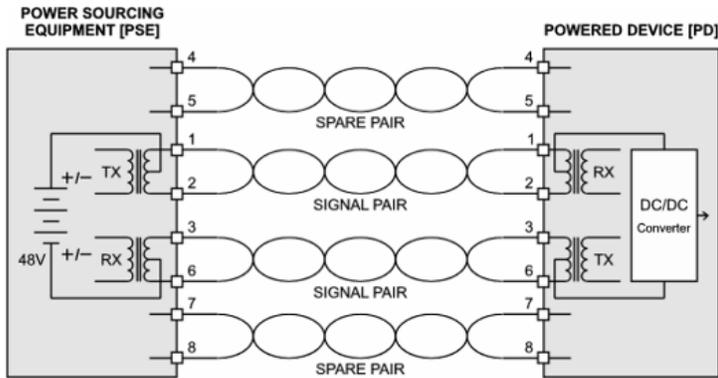

Figure 1 — Alternative A. Signal pairs carry both data and power. Polarity is indeterminate.
The 802.3af standard identifies two types of devices. The Power Sourcing Equipment (PSE) provides the required power just like its name implies. The Powered Device (PD) receives the power. The two are connected via the Ethernet communications cable. Given Ethernet's star topology, the PSE would naturally be assumed to be a port on a hub or switch while the PD would be an end station or node on the network. There are two ways of connecting power as illustrated in Figures 1 and 2. The first method, Alternative A, uses the data lines while the second method, Alternative B, uses the spare pairs. Using both approaches simultaneously is currently not allowed. The standard is being reviewed to determine if, by using both approaches, more power could be transferred to the PD. When using the spare pairs, the wires within the pair are connected together to increase the current carrying capacity. The same capacity can be obtained with the data lines if the power is fed through a center-tapped transformer. If the DC-current flow in each wire of the pair is equal, there will be no DC bias established in the winding of the transformer so this method could be very effective for carrying power and data simultaneously. In fact, this
The power being supplied by the PSE is a nominal 48 volts (44 to 57 volts). When using the spare pairs for power, the voltage polarity is defined. When using the data pairs for power, the polarity is undefined. This requires the PD to accept either polarity and still function — because a crossover cable might connect the PSE and the PD. Normally, a straight-through cable is used to connect a switch to an end device (as in Figure 1). The end device is wired as an MDI and the switch is wired as an MDIX. The “X” means that the switch implements an internal crossover function whereby transmitters on the switch connect to receivers on the end device, and receivers on